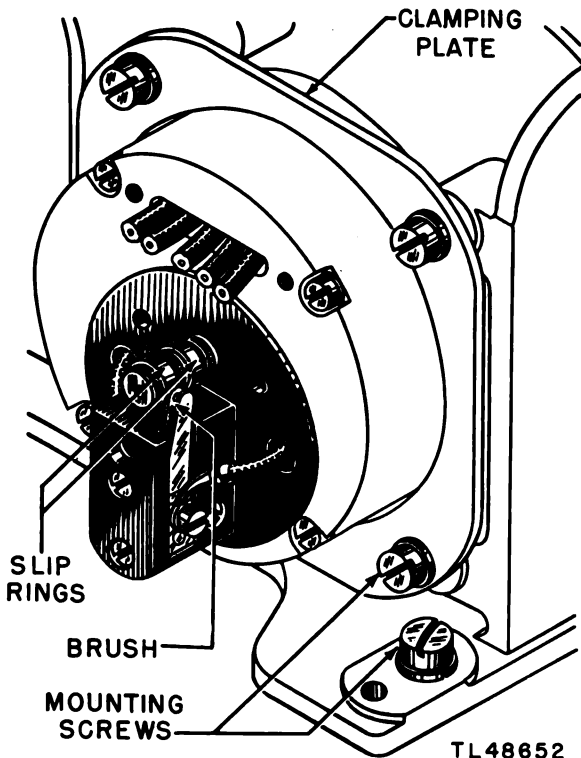

Figure 2-14. Selsyn brushes and slip rings.
(1) *Inspect (I)*. Inspect the selsyns for loose mounting and insecure coupling. Examine the exterior for dirt and corrosion. The slip rings and brushes are examined for dirt, pitting, and corrosion by removing the slip-ring housing cover (fig. 2-14). On one type of selsyn the cover is fastened by a single screw, and on the other type the cover is fastened by three screws.
(2) *Tighten (T)*. Tighten all loose mounting bolts and couplers.
(3) *Clean (C)*. When necessary, wipe the selsyns and the slip rings with a cloth moistened with dry-cleaning solvent. Remove corrosion and pitting with crocus cloth or #0000 sandpaper and then polish.
(4) *Lubricate (L)*. The selsyns are constructed with sealed bearings and no lubrication is required.